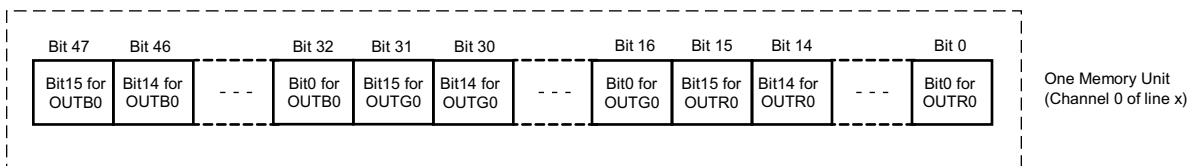

Figure 10. Bit Arrangement of One Memory Unit
Each BANK contains all the GS data of 32 scan lines. Each line is comprised of sixteen 48 bits-width memory units. Each unit contains the R/G/B grayscale(GS) data of one channel. For example, the memory unit for channel 0 contains 16-bit GS data for OUTR0, 16-bit GS data for OUTG0, and 16-bit GS data for OUTB0. Figure 10 shows the bit arrangement of this memory unit. In this example, bit 32–47 contains the 16-bit GS data for OUTB0 (Pin10 of IC) for line x.